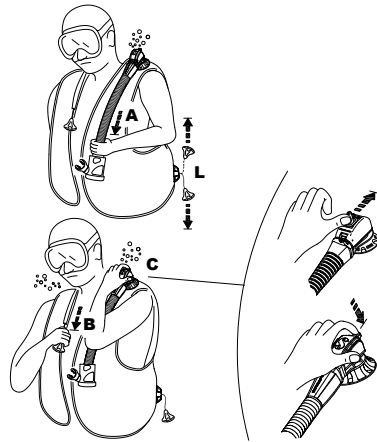

fig. 7
Stop and assume an upright position in the water. When in position, open the Manual Dump Valve by gently pulling downward on the Oral Valve/Power Inflation Valve Assembly (fig. 7 - A). It is not necessary to use excessive pressure to pull on the hose assembly. Valve travel is limited and pulling harder will not increase the air flow. To close the Manual Dump Valve, stop pulling downward, and release.
- The SCUBAPRO® Dual Manual Dump Valve (Patent) has a safety hand button that releases air when pushed (fig 7-C) , in case of failure of the Manual Dump System (broken cable, pin, etc.) or while breathing from an Air 2.
- a) pulling gently on the hose assembly (fig. 7 - A).
- b) pushing on the button that protrudes out of the valve casing (fig. 7 - C) (Patented): this system could be useful also to purge air of another diver having problems (panic, beginner diver, unconsciousness, etc.).
The valve on the right shoulder, if present, is activated by pulling gently on the knob which is connected via a lanyard to the valve itself (fig. 7 - B). To operate either style of dump valve, orient the valve to a position higher than the air bubble in the BC. Activate the dump valve until the desired amount of buoyancy is reached. Stop pulling/pushing to close the valve (fig. 7 - B).
Lower Dump Valve (fig. 7 - L)